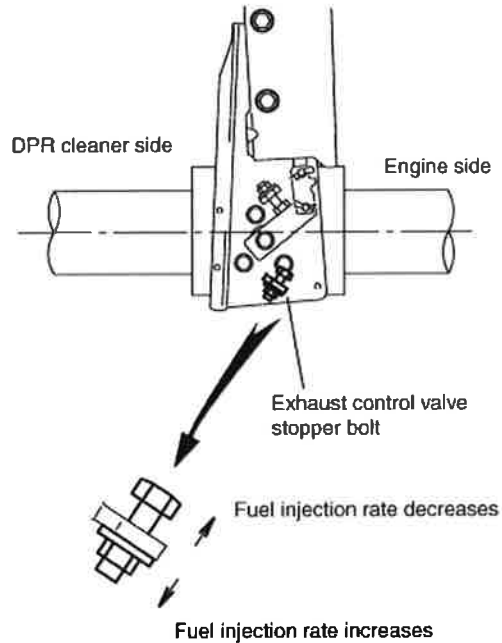

Figure 1: Exhaust Brake Adjustment
3. Visually inspect the DPF outlet surface for heavy soot or melting. Figure 1 (following) represents a DPF outlet surface that is melted and Figure 2 represents a DPF outlet surface that has heavy soot accumulation. Figure 3 represents a DPF outlet surface that does not have heavy soot or melting. Does a visual inspection of the DPF outlet surface indicate heavy soot accumulation or melting?
10. If Exhaust Brake adjustment is required, refer to the illustration (Figure 1) as a guide to adjust the exhaust brake to obtain the Target Difference specification. If the injection quantity difference is within specification, proceed to the "Inspection of the Maximum Exhaust Gas Temperature" procedure.